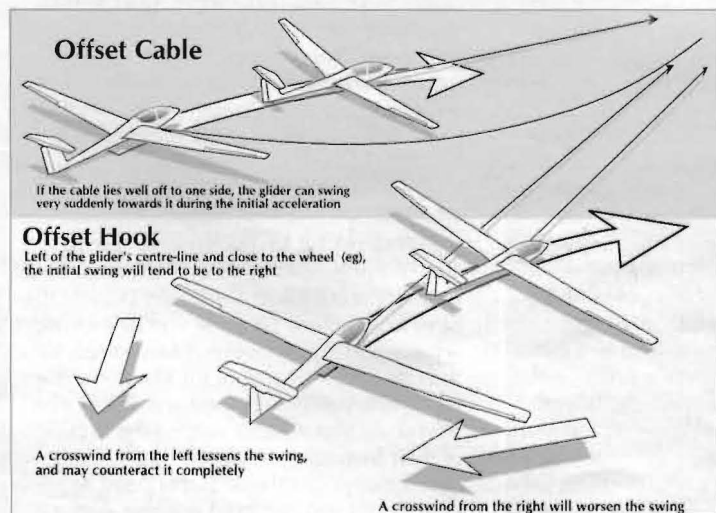

Figure 1: take-off swing
□ Wind direction and strength. A crosswind will encourage a swing into wind (Figure 1). When the wind is strong you will encounter a significant wind gradient on take-off and landing.